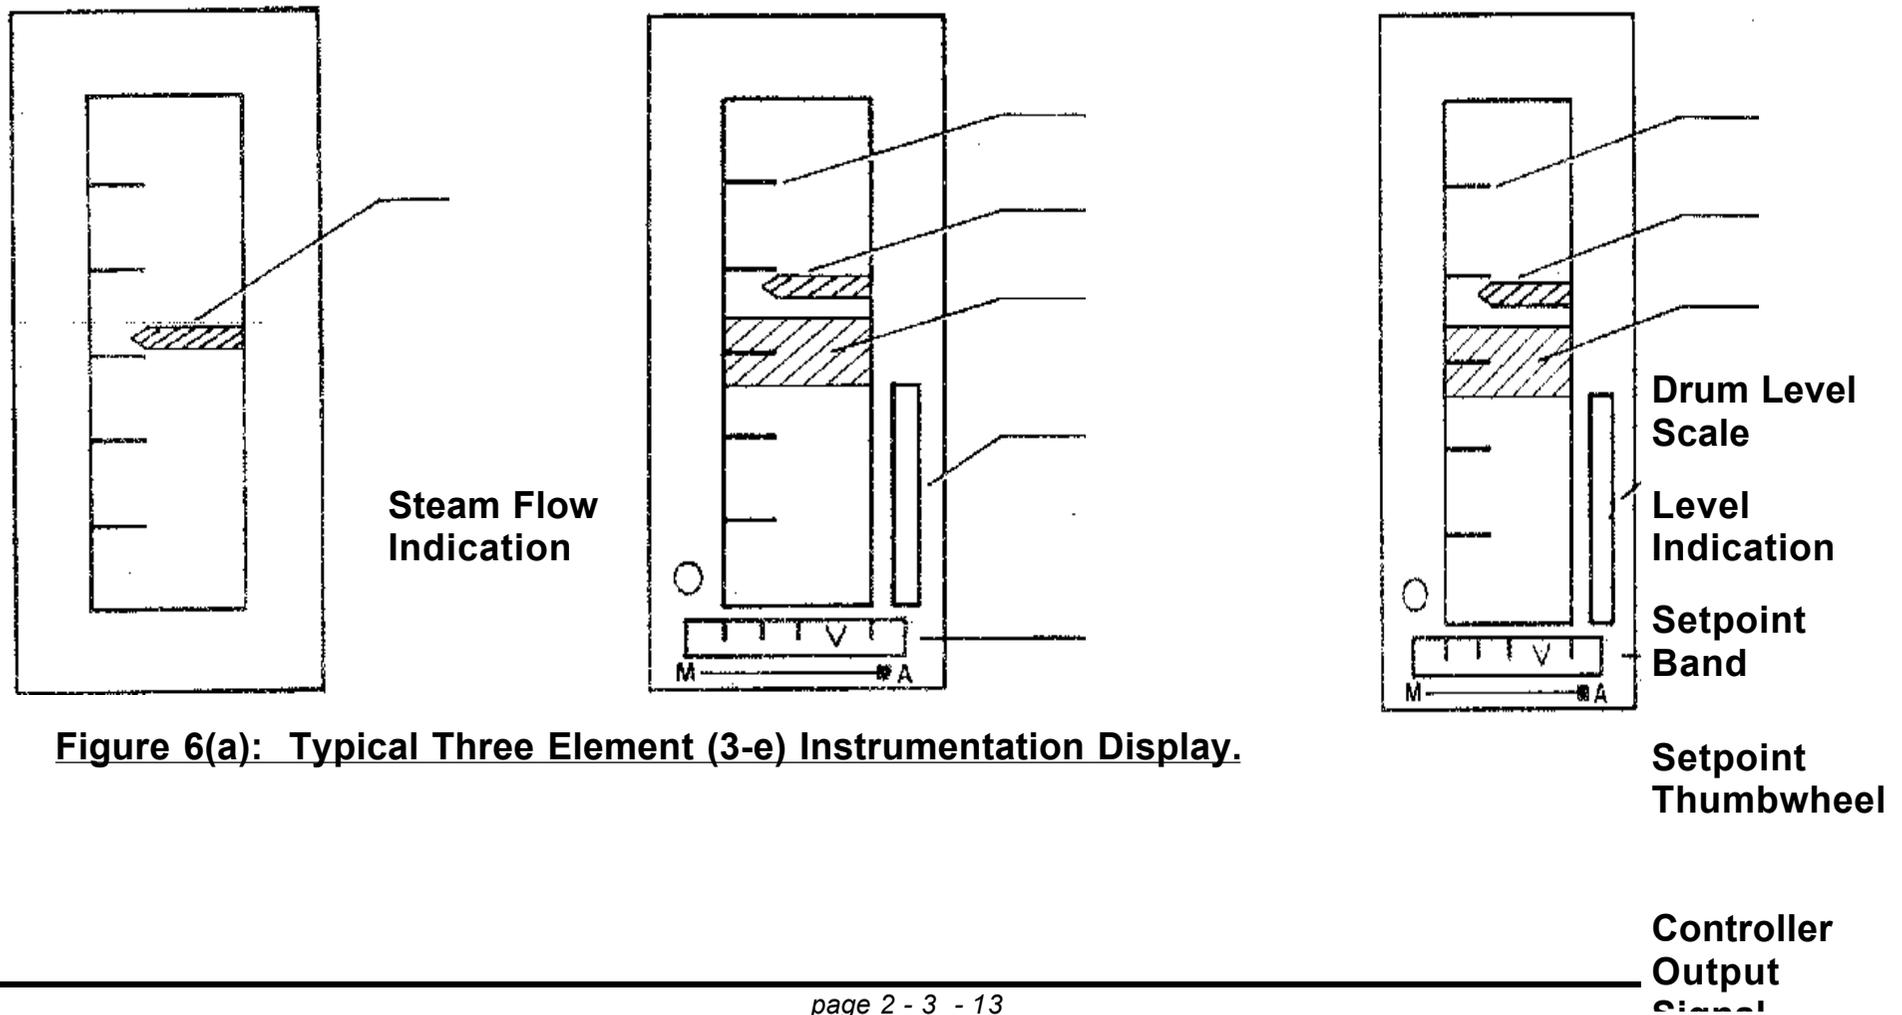

Figure 6(a): Typical Three Element (3-e) Instrumentation Display.
- Assume that the fixed drum level setpoint of the three element system (Figure 6) is maintained at some maximum drum level position *at low power*.